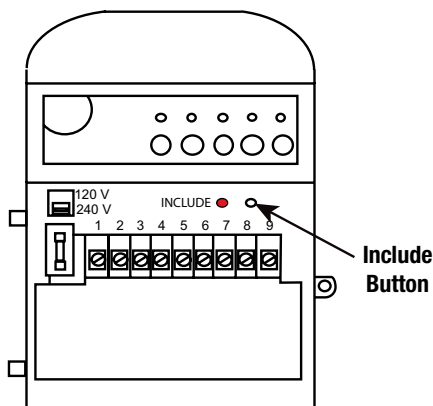

Figure 2-5. Include button on the receiver.
3. With a blunt object, press the **INCLUDE** button on the receiver. See Figure 2-5. The controller displays **SUCCESSFUL**, and then returns to the **LEARN MODE** screen.